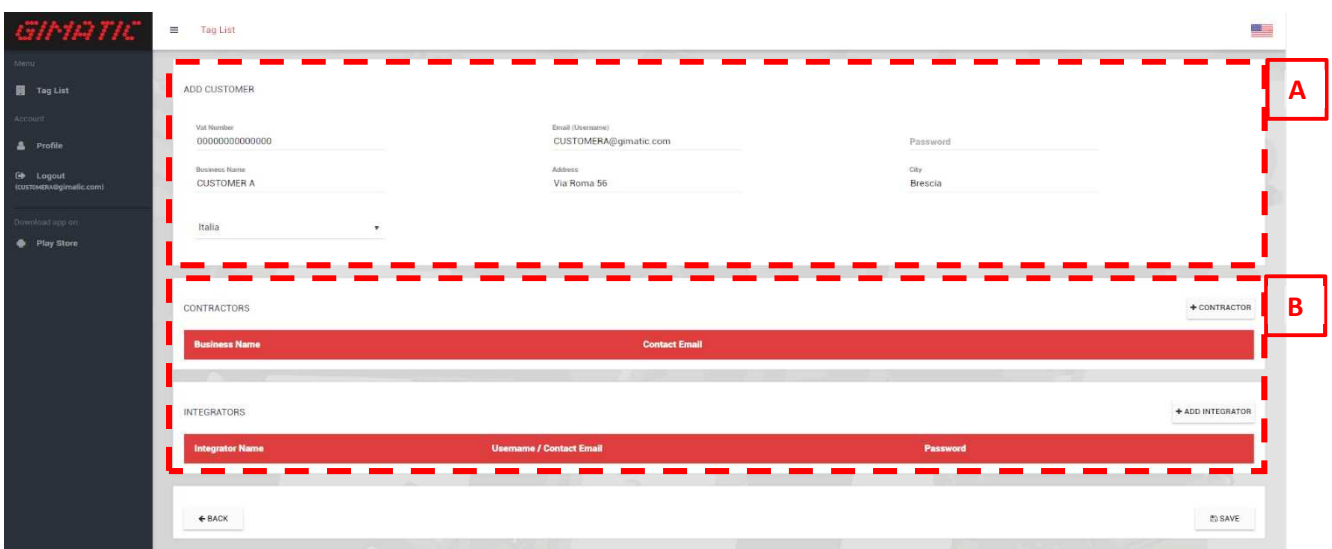
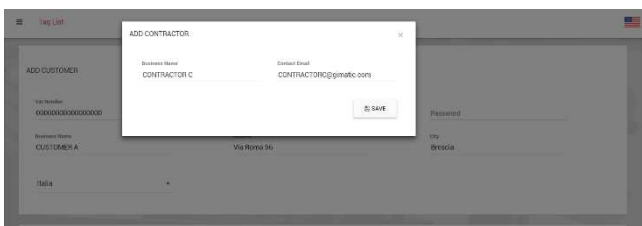
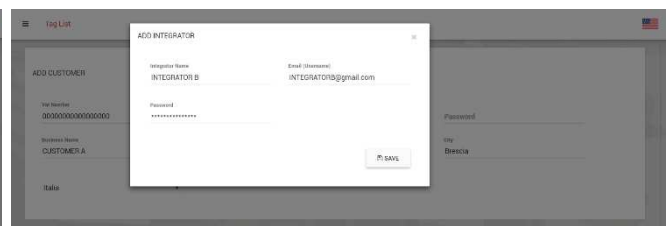

Figure 14
Figure 15
Figure 16
- A: the map shows where the tags added by the CUSTOMER A are localized. Clicking on the pen , near the customer name, it will open up the window showed in Figure 14, and there is the possibility to add integrators or contractors, as showed in the chapter 3.3. If the basket  is clicked on, the customer profile will be deleted. In the upper right of this section, there is the possibility to export the .xls file with all the information related to CUSTOMER A.
To enter a contractor or an integrator, as said before, shall be clicked on the pen near the customer name, the picture below (Figure 14) shows the window that will appear. In the section A there are details concerning the CUSTOMER A. The section B underline the list of contractors and integrators already added and there is the option to assign a contractor or an integrator to CUSTOMER A. Trying to add a contractor, a chart like Figure 15 will be displayed and to complete the operation has to enter the contractor name and email. The contractor can't see the tag details assigned to himself, for these reasons it doesn't need an account. An integrator can check all the details of his tags. Therefore, the customer must enter email and password during the insertion of an integrator, like in Figure 16. The same credentials will be used by the integrator to perform the log in. Then the integrator will receive an email containing a link for the activation of the account (later on the integrator can eventually change his username and password).